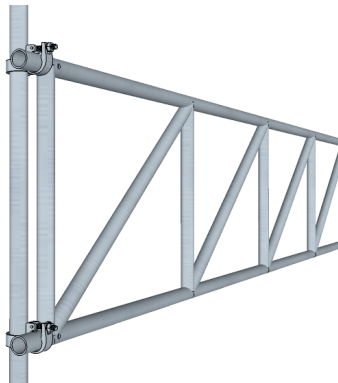

Figure 1 – Beam Support Detail
- 7) Permissible shear assumes beam is supported on top and bottom chords – see Figure 1